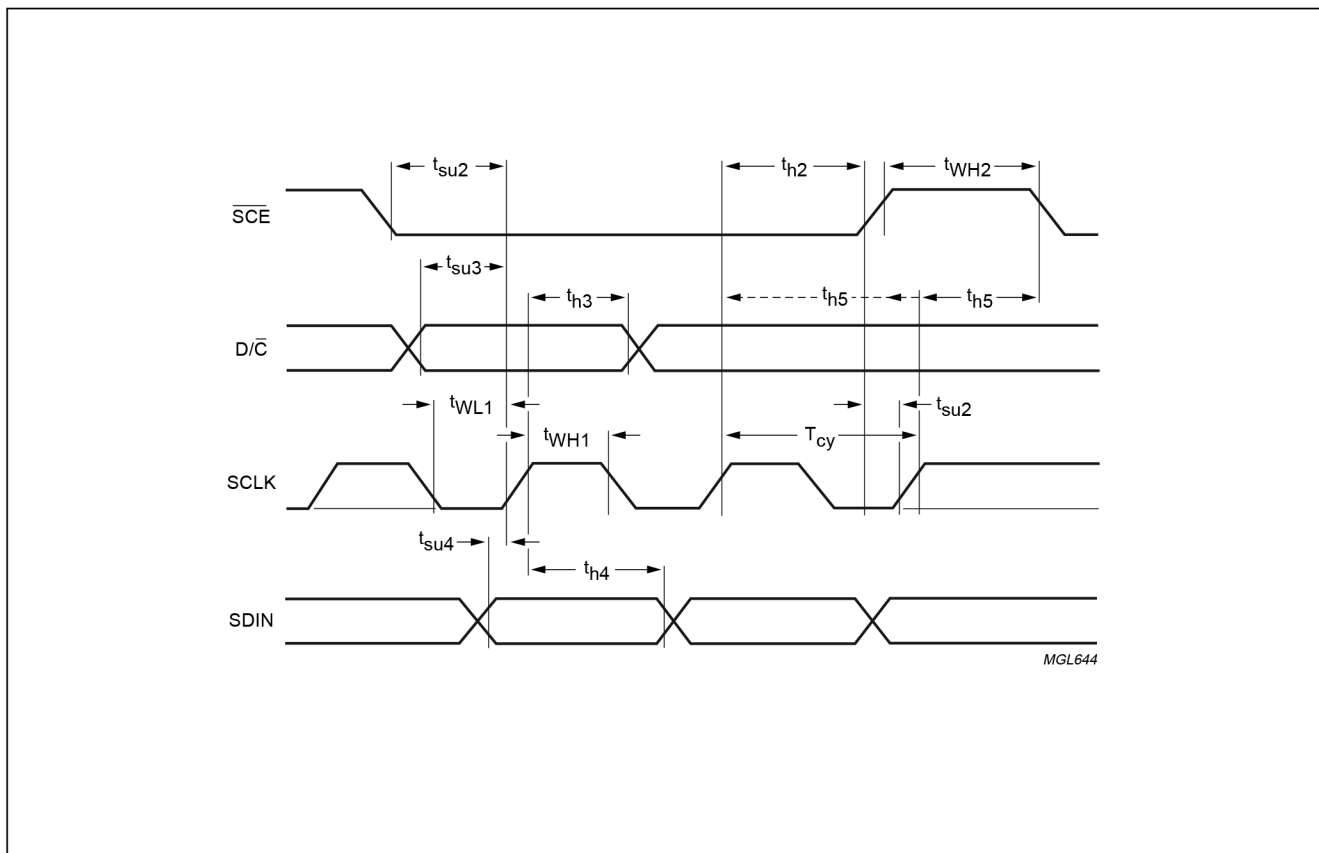

Figure 15: Serial interface timing
3. t_{h5} is the time from the previous SCLK positive edge (irrespective of the state of $\overline{\text{SCE}}$) to the negative edge of $\overline{\text{SCE}}$ (see Figure 15).